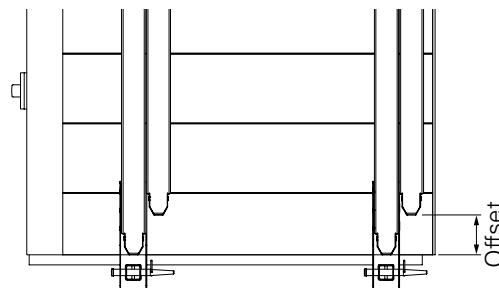

Fig. B1.25a
- If the offset of the platform beam is insufficient, the Guardrail Post Holder Multi must be assembled in advance. (Fig. B1.25a)